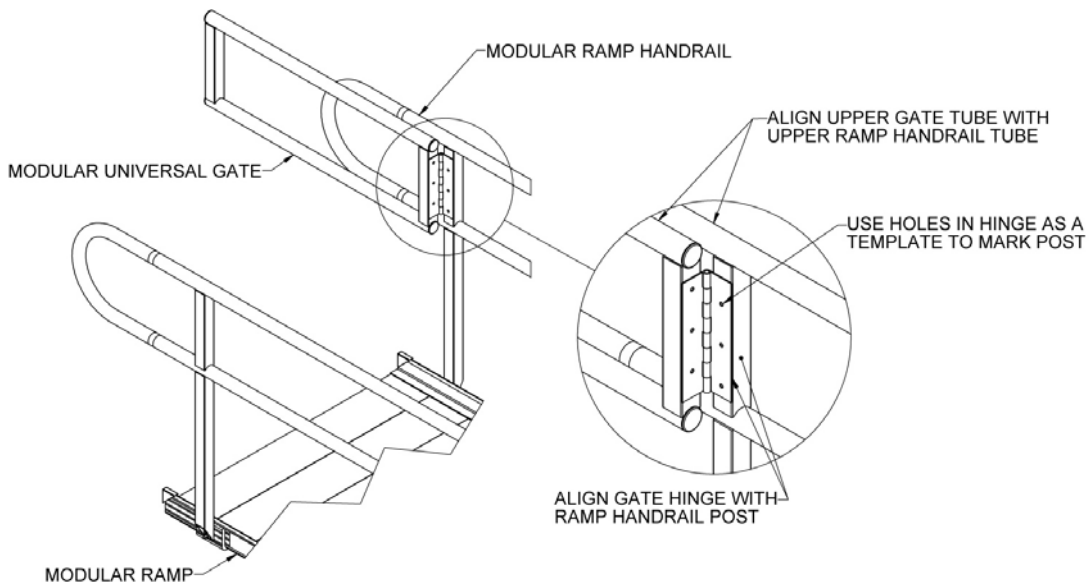

FIG. 2
2.3. Use the holes in the hinge as a template and mark the locations with a pencil or similar marker. Drill three 5/16" holes through the post at the marked locations (FIG. 2).